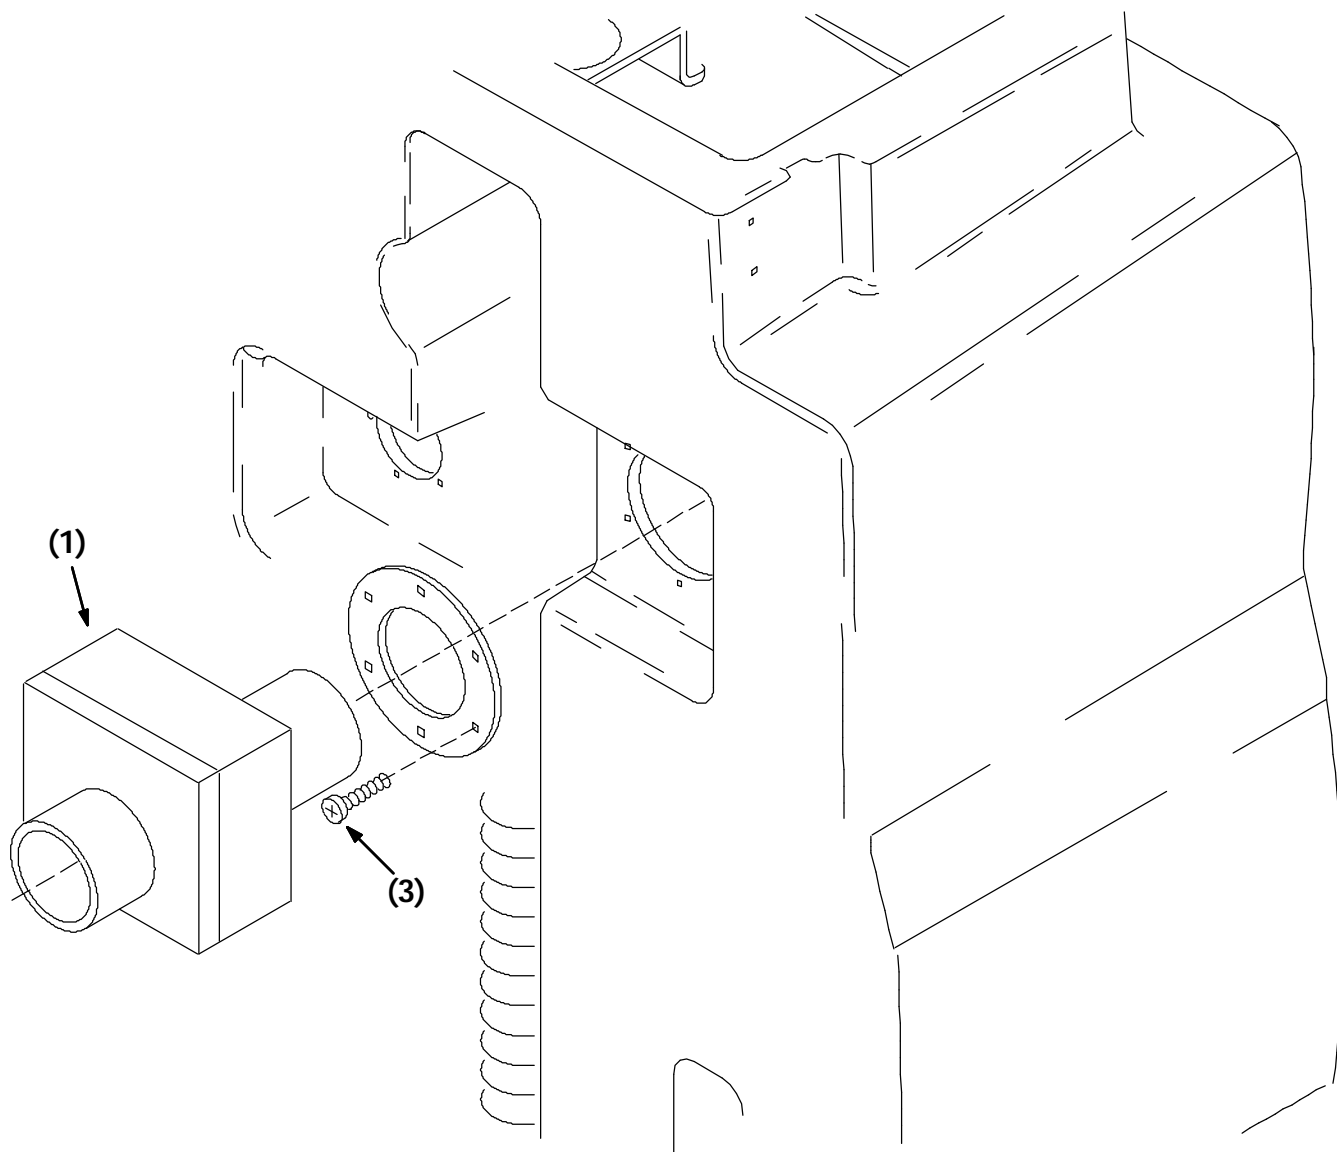

FIG. 4 - Filter Box Assembly And Installation
10. Install the filter (2) into the bigger half of the filter box assembly (1).
11. Install the smaller half of the filter box assembly (1) onto the bigger half. Use the two knobs to secure the two halves of the filter box (1) together.
12. Install the cuff end of the vacuum fan hose onto the tube end of the smaller half of the filter box assembly (1). (Refer to FIG. 4)